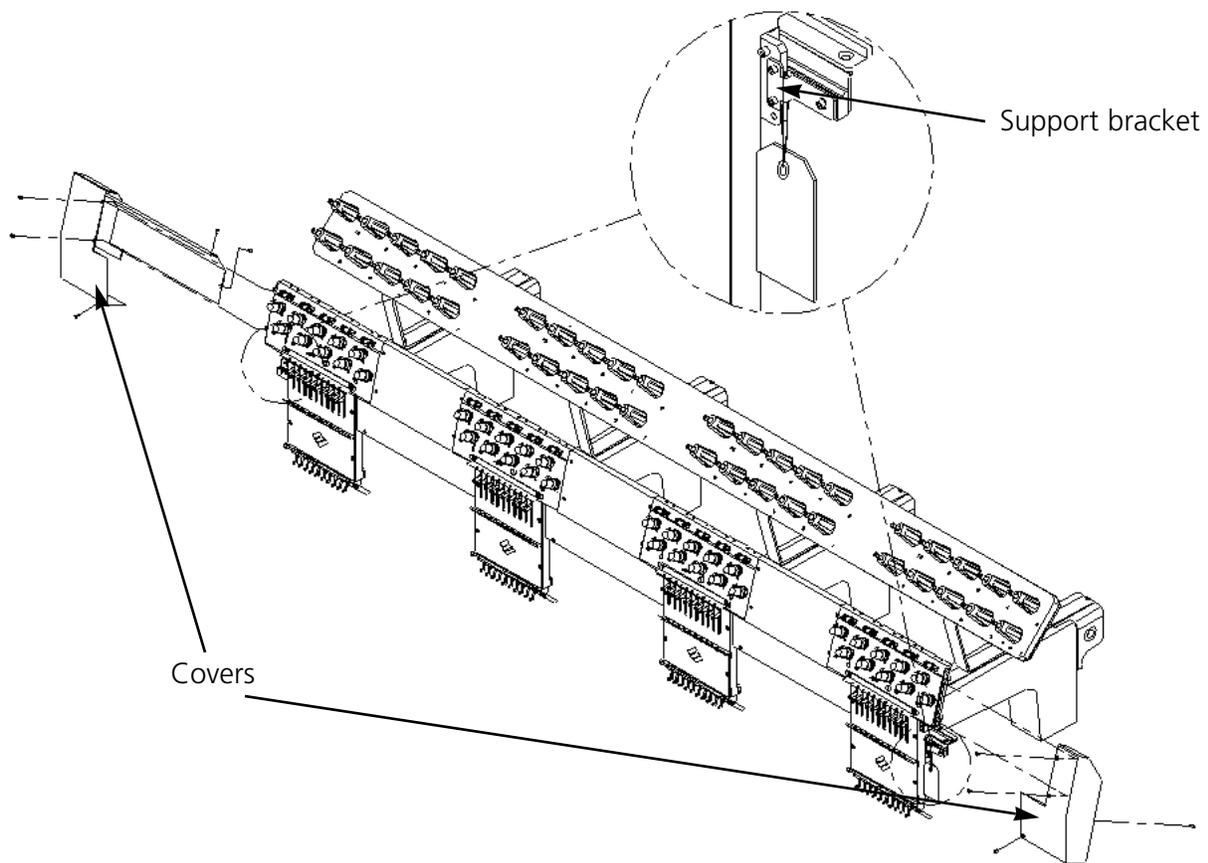

Figure 1-10
1. Remove the two supports (a caution tag is attached to each). Refer to Figure 1-10.
3. Install the left and right end covers, as shown in Figure 1-10. The screws for the covers are installed on the machine.